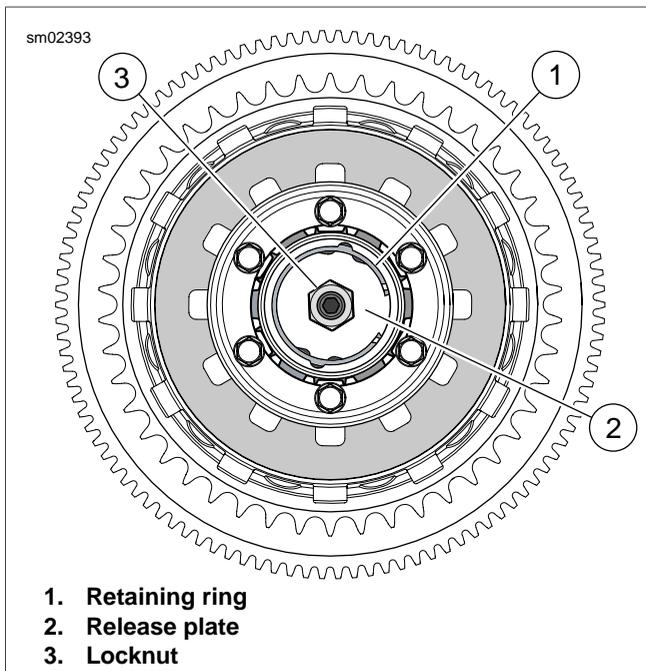

Figure 6-6. Clutch
6. See Figure 6-6. Loosen locknut (3).
7. Remove retaining ring (1) and release plate (2).